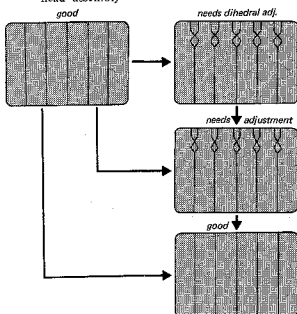

Fig. 4-6. Head dihedral adjustment
3. Observe the picture on the monitor. (Do not use a monitor set for a short horizontal AFC time constant.) If the top of the picture is as shown by "A" in Fig. 4-6 (it appears as horizontal jitter), adjust Video Head B as follows.
8. Play back the tape and observe the top of the picture shown in Fig. 4-6.